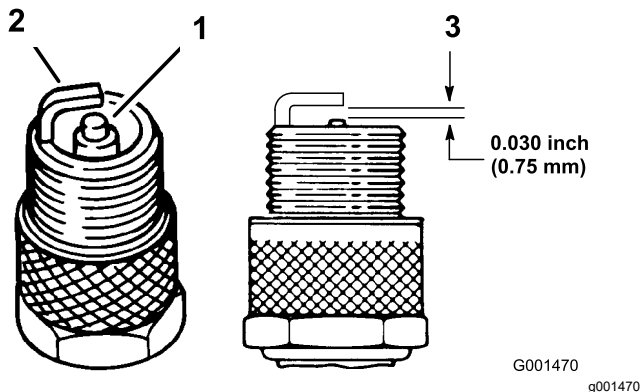

Figure 27
1. Look at the center of the spark plugs (Figure 27). If you see light brown or gray on the insulator, the engine is operating properly. A black coating on the insulator usually means that the air cleaner is dirty.
2. Check the gap between the center and side electrodes (Figure 27). Bend the side electrode if the gap is not correct.